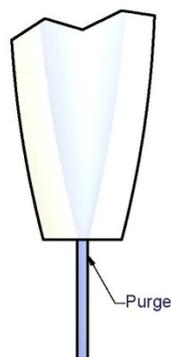

Figure 1 – Dispensing Device Purge
- Verify that the device and fluid line are full of fluid by purging under positive pressure. This is accomplished by turning the knob on the front panel from *Control* to *+ Purge*. After a few seconds, turn the knob back to *Control*. With a clean device and fluid line, the purge should look like Figure 1. If the ink stream coming out is twisted and/or deviates from the axis of symmetry most of the time it means that there is contamination in the orifice. Follow the cleaning procedure on MicroFab website at www.microfab.com.